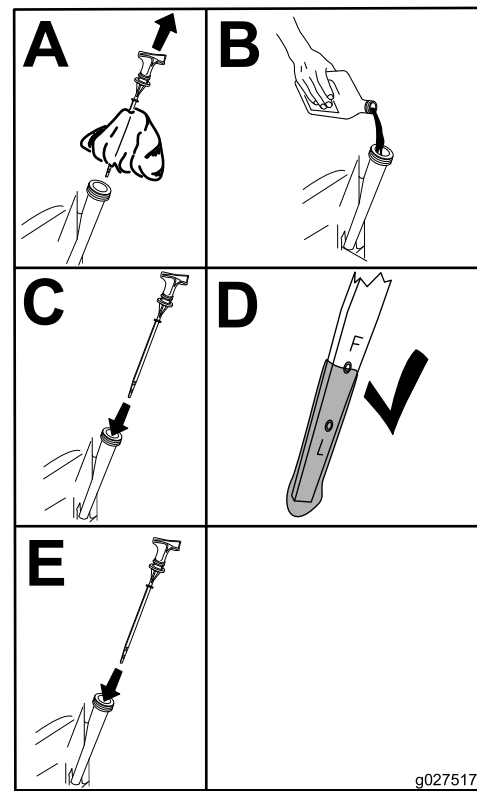

Figure 40
- Slowly pour approximately 80% of the specified oil into the filler tube (Figure 40).